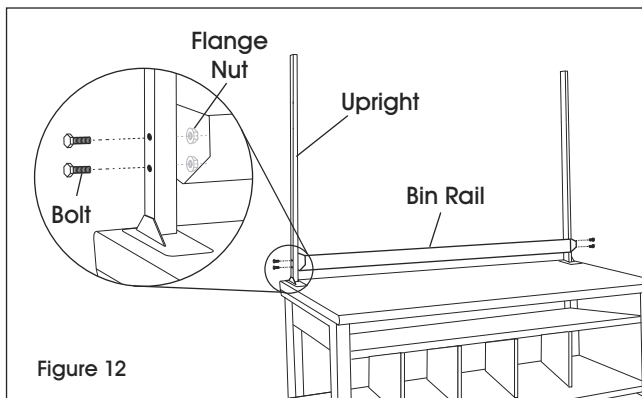

Figure 12
1. Line up bin rail (1) with uprights at desired height.
2. Secure to uprights with four 1½" bolts and flange nuts. (See Figure 12)